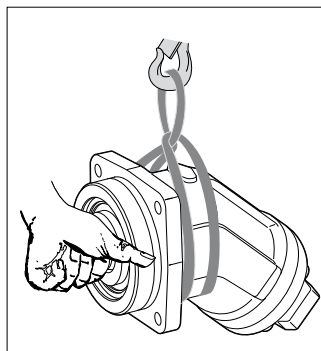

Fig. 5: Transport with lifting strap
- ▶ Place the lifting strap around the axial piston unit in such a way that it passes over neither the attachment parts (e.g. valves) nor such that the axial piston unit is hung from attachment parts (see Fig. 5).